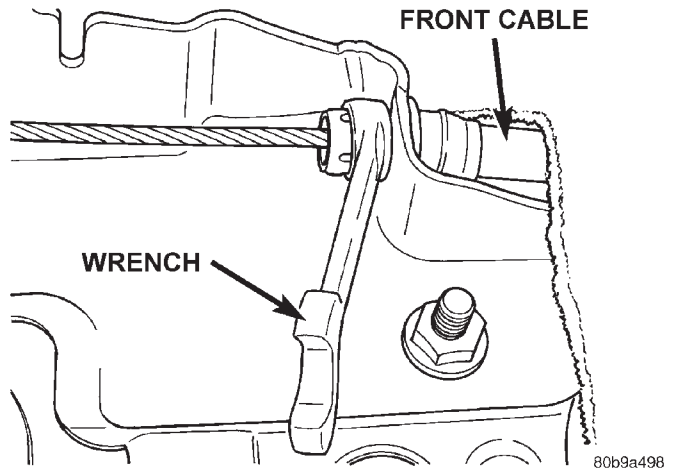

Fig. 51 Brake Lever Bracket
(9) Compress the cable retainers with a 13 mm wrench (Fig. 51). Remove the cable from parking brake lever bracket and equalizer bracket.